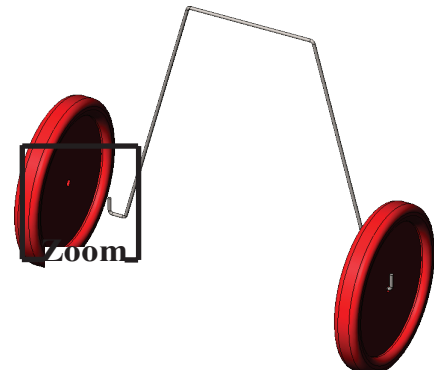

Fig. 9
Step 1. Click Zoom to Fit  (F) on the View toolbar.
Step 2. Zoom in around **left wheel hole and end of wire**, Fig. 9. To **zoom**, hold down **Shift** key and drag with middle mouse button (wheel). To **pan**, hold down **Ctrl** key and drag with middle mouse button (wheel).